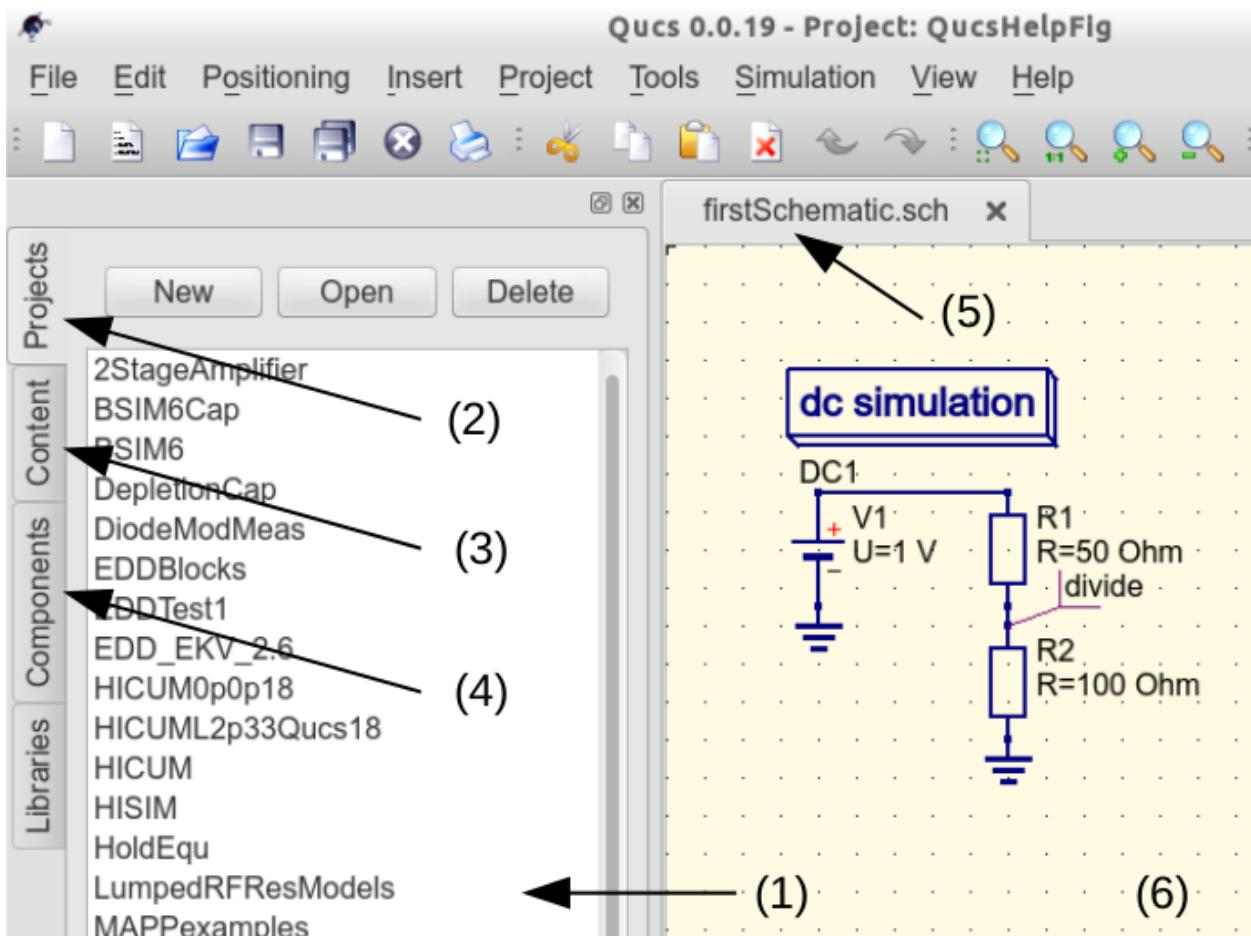

Figure 3 - Qucs main window with working areas labelled
On launching Qucs a working area labelled (6) appears at the centre of the GUI. This window is used for displaying schematics, numerical and algebraic model and circuit design data, numerical output data, and signal waveforms and numerical data visualised as graphs, see Figure 3. Clicking, with the left hand mouse button on any of the entries in the tabular bar labelled (5) allows users to quickly switch between the currently open documents. On the left hand side of the Qucs main window is a third area labelled (1) whose content depends on the status of **Projects** (2), **Content** (3), **Components** (4) or **Libraries**. After running Qucs, the **Projects** tab is activated. However note, when Qucs is launched for the first time the **Projects** list is empty.
To enter a new project left click on the **New** button located on the right above window (1). This action causes a Qucs GUI dialogue to open. Enter the name of a Qucs project in the box provided, for example enter *QucsHelpFig* and click on the **OK** button. Qucs then creates a project directory in the `~/.qucs` directory. In the example shown in Figure 3 this is called **QucsHelpFig_prj**. Every file belonging to this new project is saved within the **QucsHelpFig_prj** directory. On creation a new project is immediately opened and its name displayed on the Qucs window title bar. The left tabular bar is then switched to **Content**, and the content of the currently opened project displayed. To save an open document click on the **save** button (or use the main menu: **File** → **Save**). This step initiates a sequence which saves the document displayed in area (6). To complete the save sequence the program will request the name of your new document. Enter *firstSchematic*, or some other suitable name, and click on the **OK** button to complete the save sequence.
As a first example to help you get started with Qucs enter and run the simple DC circuit shown in Figure 3. The circuit illustrated is a two resistor voltage divider network connected to a fixed value DC voltage source. Start by clicking on the **Components** tab. This action causes a combo box to be displayed from which a component group may be chosen and the required components selected. Choose components group **lumped components** and click on the first symbol: **Resistor**. Next move the mouse cursor into area (6). Pressing the right mouse button rotates the **Resistor** symbol. Similarly, pressing the left mouse button places the component onto the schematic at the place the mouse cursor is pointing at. Repeat this process for all components shown in Figure 3. The independent DC voltage source is located in the **sources** group. The ground symbol can be found in the **lumped components** group or selected from the Qucs toolbar. The icon requesting DC simulation is listed in the **simulations** group. To edit the parameters of the second resistor, double-click on it. A dialogue opens which allows the resistor value to be changed; enter *100 Ohm* in the edit field on the right hand side and click enter.
To connect the circuit components shown in Figure 3, click on the wire toolbar button (or use the main menu: **Insert** → **Wire**). Move the cursor onto an open component port (indicated by a small red circle at the end of a blue wire). Clicking on it starts the wire drawing sequence. Now move the drawing cursor to the end point of a wire (normally this is a second red circle attached to a placed component) and click again. Two components are now connected. Repeat the drawing sequence as many times as required to wire up the example circuit. If you want to change the corner direction of a wire, click on the right mouse button before moving to an end point. You can also end a wire without clicking on an open port or on a wire; just double-click the left mouse button.
As a final step before DC simulation label the node, or nodes, who's DC voltage is required, for example the wire connecting resistors **R1** and **R2**. Click on the label toolbar button (or use the menu: **Insert** → **Wire Label**). Now click on the chosen wire. A dialogue opens allowing a node name to be entered. Type *divide* and click the **OK** button. If you have drawn the test schematic correctly the entered schematic should look the same, or be similar to, the one shown in Figure 3.